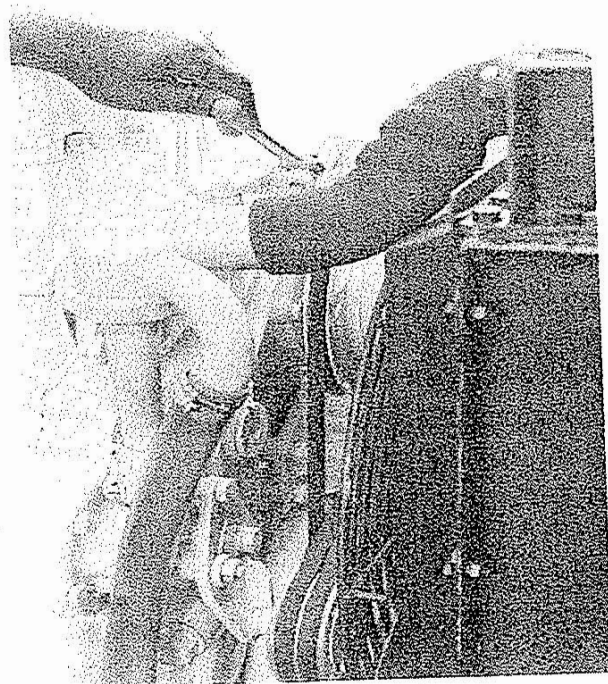

Fig.3.29
*Loosen nut of tow rod and tension tube (Fig.3-29). Turn the tow rod in clockwise direction to set the idler segment for suitable tightening of 'V'belts or vice-versa. Check the tension as explained in 'b' above. After adjusting the desired tension, retighten the nut.